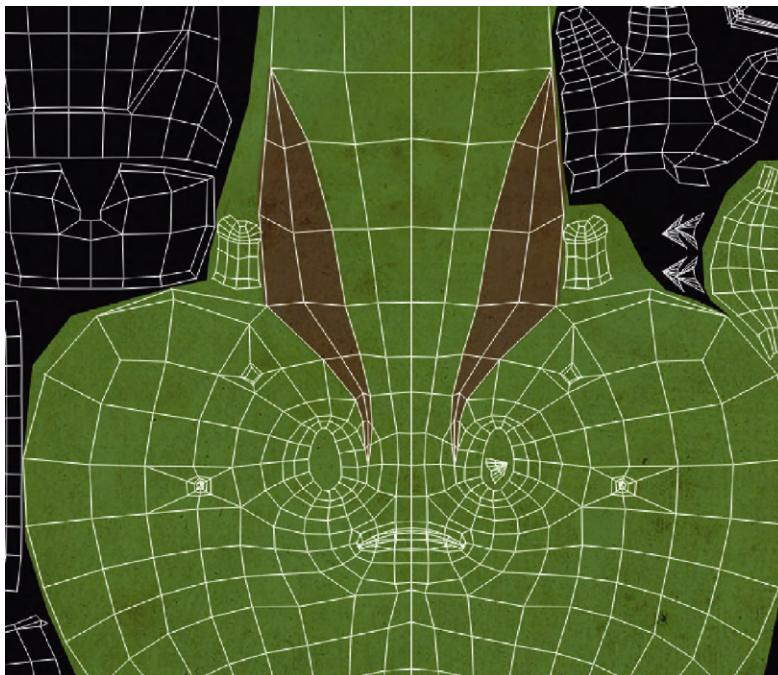

FIG 6.39 Painting new color layers that are still beneath the noise material.
Step 8: Paint in other head details. The method here is to make sure to create a new layer for each big color change (like the brown ridges across the head) and make sure the layer is beneath the noise layer and above the skin layer. Then paint the desired color (Fig. 6.39).